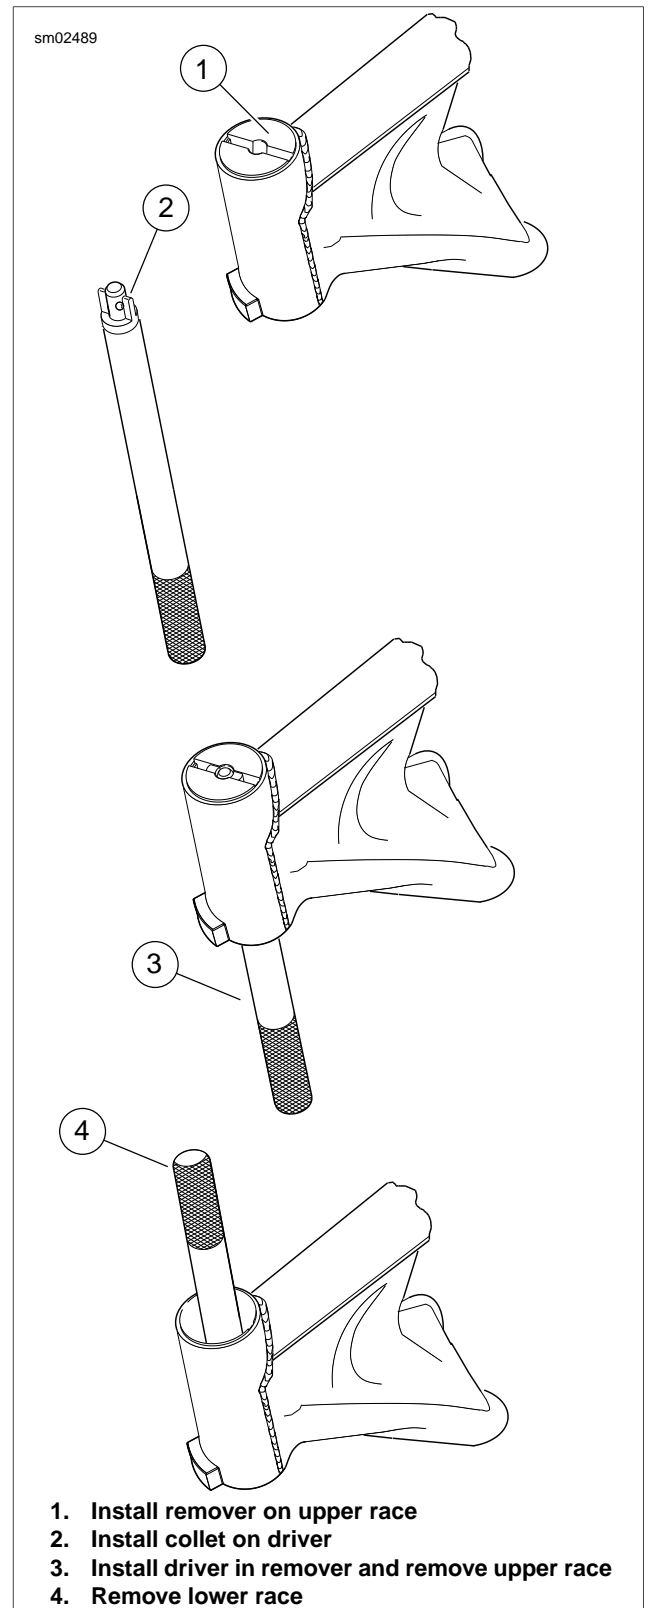

Figure 2-91. Remove Races
1. See Figure 2-91. With the tapered side down, seat the two-piece STEERING HEAD BEARING RACE REMOVER (Part No. HD-39301-A) (1) on the upper bearing race leaving a gap in the middle.
2. Install the collet (2) on the UNIVERSAL DRIVER (Part No. HD-33416).
3. Insert the driver at the bottom of the steering head tube, and while holding the remover tool on the race, center the collet in the gap (3). Tap the driver to remove the upper race.
4. Reverse the tool and repeat the procedure (4) to remove the lower bearing race.